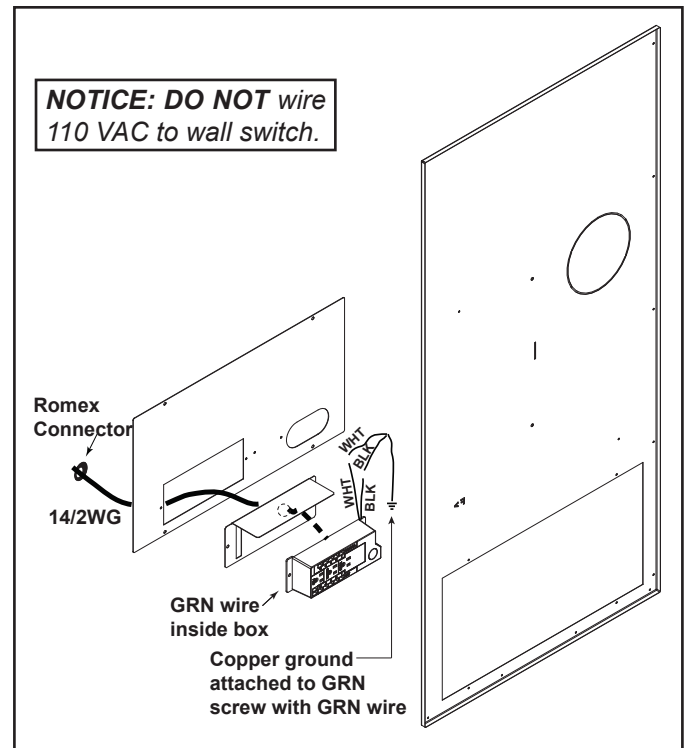

Figure 12.3 Junction Box Detail
- Remove the screw attaching the junction box/receptacle to the outer shell, rotate the junction box inward to disengage it from the outer shell. See Figure 12.3.
- Pull the electrical wires from outside the appliance through the opening into the valve compartment and secure wires with a Romex connector. See Figure 12.3